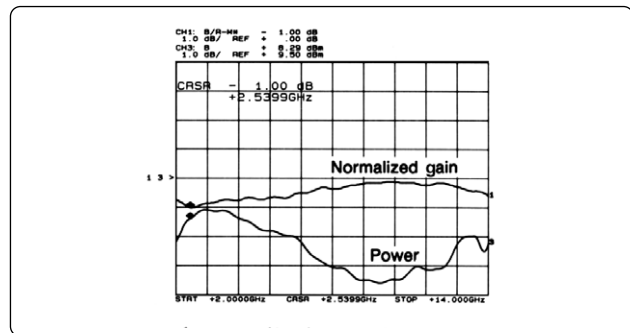

Figure 7. Example normalized swept frequency gain compression measurement. Gain compression is measured relative to small signal gain.
In the alternate sweep measurement, it is difficult to see exactly at which frequency 1-dB gain compression first occurs. This can be more easily seen using normalization to the small signal gain. Small signal gain is placed into memory, then normalized. As the power level is increased, compression can be observed as the drop from a flat reference line. The worst case frequency can be easily determined (see Figure 7). Notice that in this measurement, the actual values of small and large signal gain are not displayed.
2. Increase the source power level until the trace falls by 1–dB at some frequency. An example is shown in Figure 7. This display shows compression from a flat trace, but does not show the actual values of small signal or large signal gain.